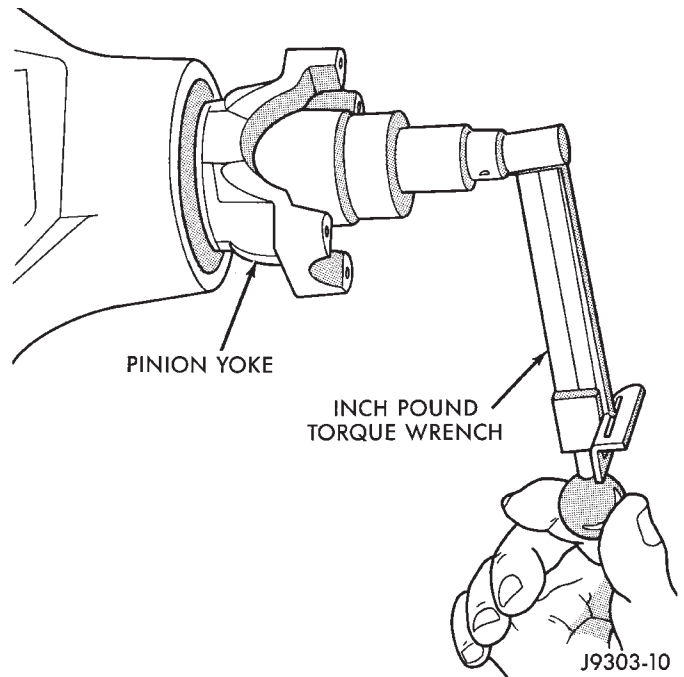

Fig. 14 Check Pinion Rotation Torque
(5) Rotate the pinion gear a minimum of ten times. Verify that the pinion rotates smoothly. Rotate the pinion shaft using a (in. lbs.) torque wrench. Rotating torque should be equal to the reading recorded during removal plus an additional 0.56 N·m (5 in. lbs.) (Fig. 14).